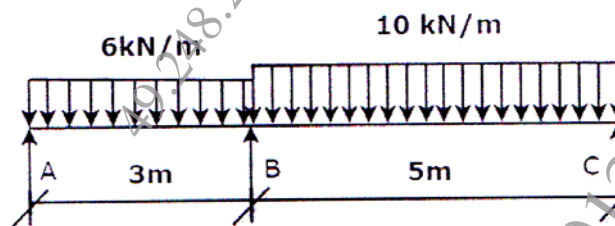

Figure 5
- Q3) a) Analyze the continuous beam ABC shown in figure 5 by moment distribution method. Assume uniform flexural rigidity. [9]